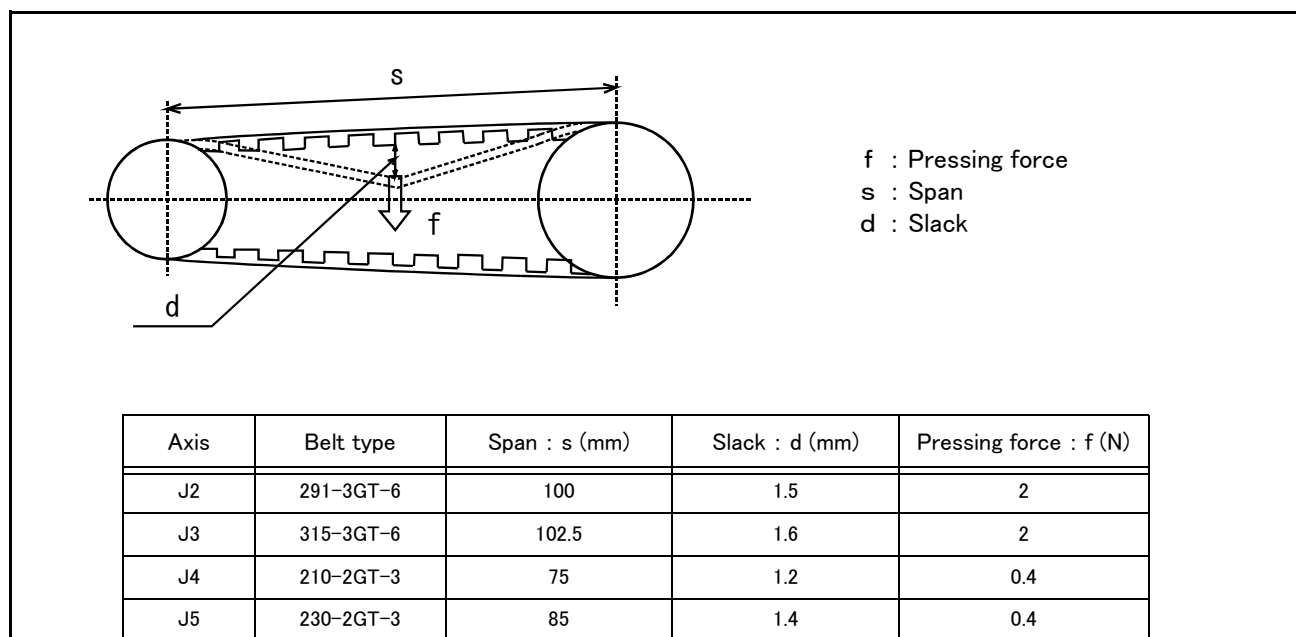

Fig.5-10 : Belt tension
- 4) Confirm that the belt tension is adjusted to slacken approx. 1.5mm when the center of the belt is lightly pressed with a finger (approx. 2N) as shown in "Fig.5-10 : Belt tension".
- 4) Confirm that the belt tension is adjusted to slacken approx. 1.6mm when the center of the belt is lightly pressed with a finger (approx. 2N) as shown in "Fig.5-10 : Belt tension".
- 4) Confirm that the belt tension is adjusted to slacken approx. 1.4mm when the center of the belt is lightly pressed with a finger (approx. 0.4N) as shown in "Fig.5-10 : Belt tension".
The timing belt can satisfactorily convey the drive and keep a durable force only when it has an adequate tension. The belt tension should not be too tight or too loose. Instead, it should be adjusted to a degree that elasticity is felt when the belt is pressed with the thumb. If the belt tension is too weak, the belt loosening side will vibrate. On the other hand, if the belt tension is too strong, a sharp sound will be heard and the belt tension side will vibrate. The detailed adjustment (tension) is shown in Fig. 5-10.